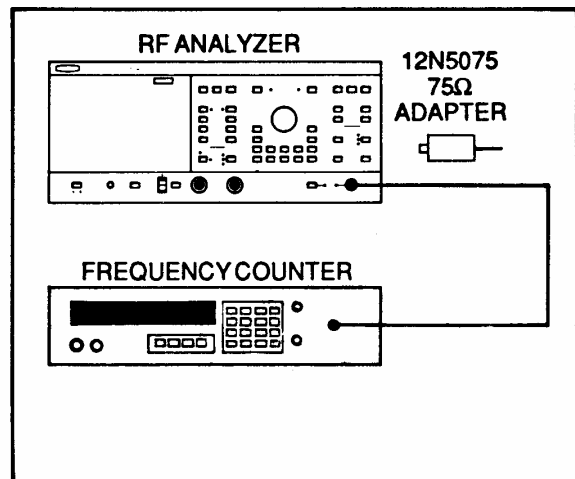

Figure 5-1. Test Setup for CW Frequency Accuracy Test
1. Before connecting the test equipment as shown in Figure 5-1, turn the equipment on.